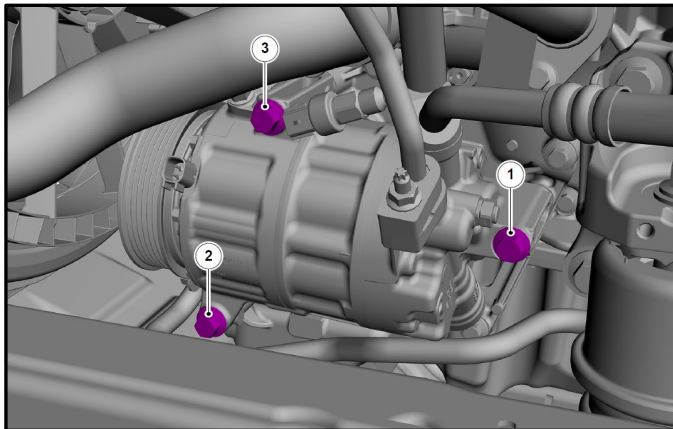

Figure 30
- A/C compressor and attach the retainers and electrical connectors. Torque 25Nm. Figure 30